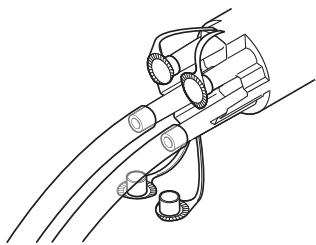

Figure 4 Attach Tubing To Manifold
- Attach suction tubing to the manifold port(s) (Figure 4). Use 5/16 in. [7.9 mm] inner diameter suction tubing or 1/4 in. [6.4 mm] inner diameter suction tubing with a 5/16 in. [7.9 mm] adapter, as required.